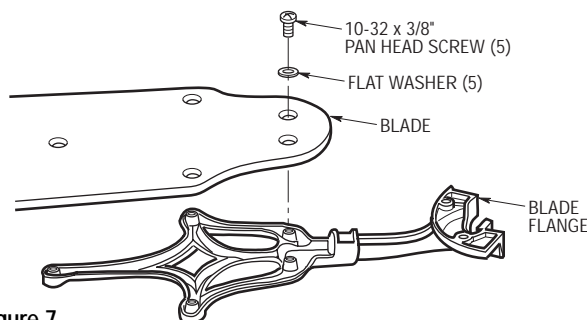

Figure 7
- 11. Use five 10-32 x 3/8" pan head screws and flat washers (supplied) to secure the flange to the blade (Figure 7). Repeat for the remaining blade(s).